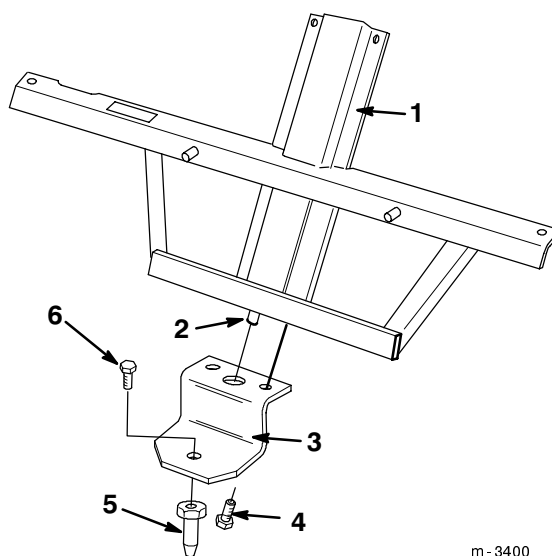

Figure 4
1. Slide the lower extension bracket onto the mounting pin of the mounting frame (Fig. 4).
2. Secure the lower extension bracket to the mounting frame using (2) 5/16 x 1" bolts and 5/16" locknuts (Fig. 4).
3. Secure the hitch pin in the hole in the lower extension bracket using a 5/16 x 3/4" bolt (Fig. 4).